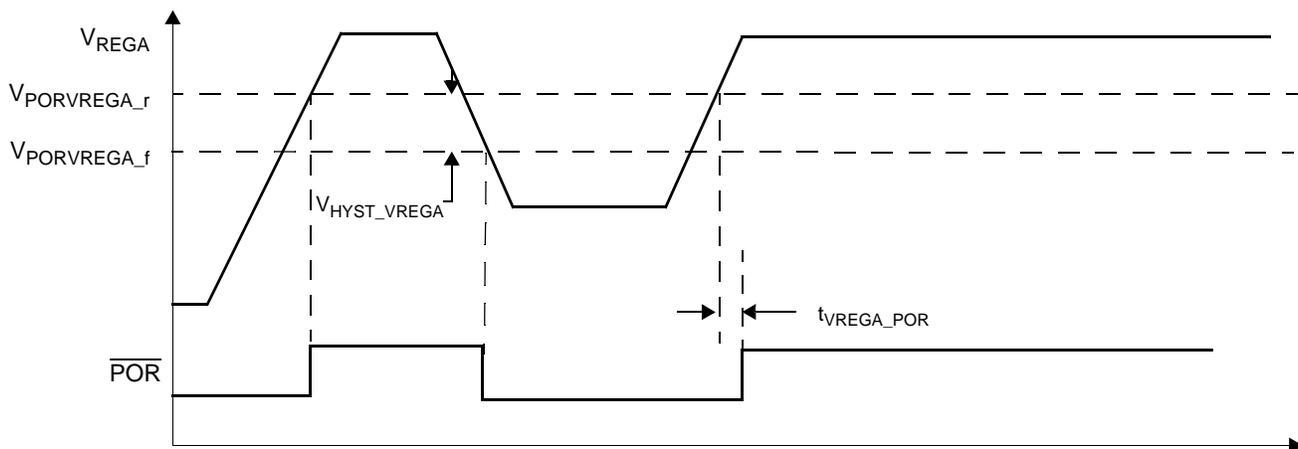

Figure 7. V_{REGA} Under-Voltage Detection
| 88 | V_{REGA} Under-Voltage Reset Delay (See Figure 7) $V_{REGA} < V_{PORVREGA_f}$ to POR assertion | t_{VREGA_POR} | — | — | 5 | μ s | (3) |